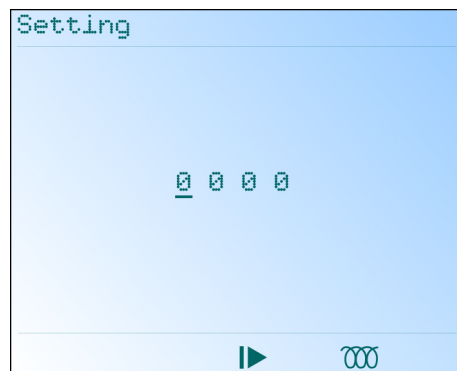

Figure 16-15 : Recap of the device password screen.
- **Password:** sets the product password. The device will ask for this password before allowing access to the *Setting* screen to configure the device locally (device keys (see Figure 16-15)). Enter the password. The permitted code range is from 0000 to 9999, including terminals. If a code other than 0000 is activated, the access to the *Setting* screen will be possible only after answering this password.